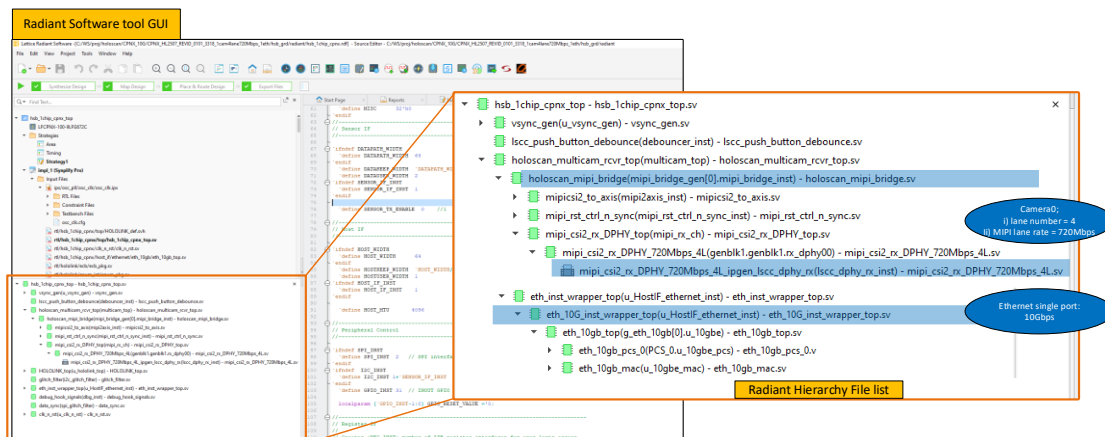

Figure 4.12. Lattice Radiant Software Hierarchy File List
4. Verify the reference design configuration. Review the Lattice Radiant software hierarchy file list and the clock summary from the place-and-route timing report. Figure 4.12 shows the reference design in the Lattice Radiant software hierarchy file list. The reference design is now ready for compilation and implementation.